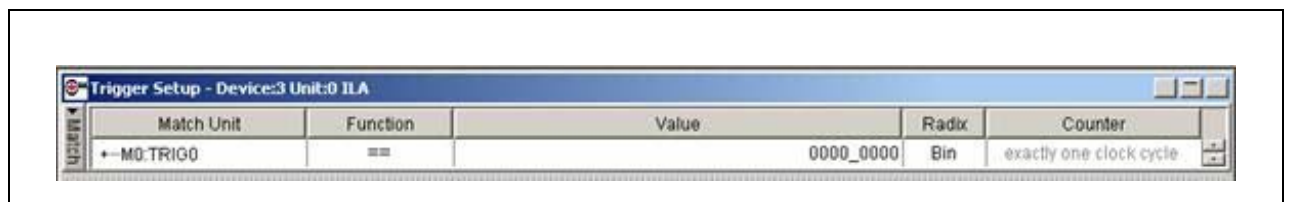

Figure 148: Trigger Setup
7. Setup Trigger. In the Trigger Setup window, shown in Figure 148 on page 219, change the current XXXX-XXXX value with 0000-0000. Once the counter hits 0, Chipscope starts capturing values. Earlier, the buffer was setup to 512, so 512 data points can be visualized in Chipscope. Re-capture the data.